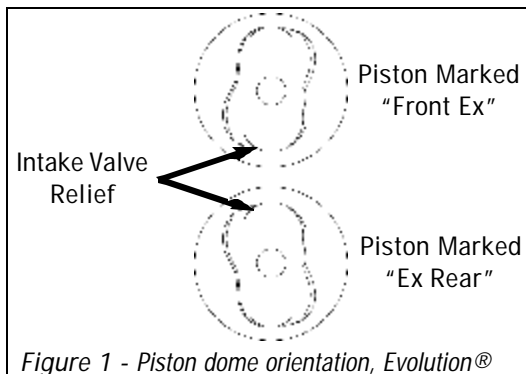
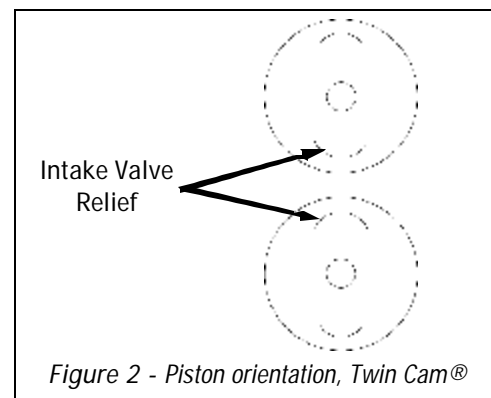

Figure 1 - Piston dome orientation, Evolution®
Figure 2 - Piston orientation, Twin Cam®
IMPORTANT NOTE: Edelbrock/JE pistons (Evolution®) only work with Edelbrock heads due to the unique dome configuration. (For correct piston orientation, see Figure 1).
IMPORTANT NOTE: Due to the flat top design, all Edelbrock/JE (Twin Cam®) 95" pistons can be used on either front or rear cylinders, and valve reliefs on each piston are marked "Intake" and "Exhaust". (For correct piston orientation, see Figure 2).
8. Place the piston over the connecting rod, making sure that the intake valve pocket is towards the intake side. (For Evolution®, see Figure 1. For Twin Cam®, see Figure 2). Coat the wrist pin with engine oil and insert it into the piston. Install the second wrist pin retainer into the groove.